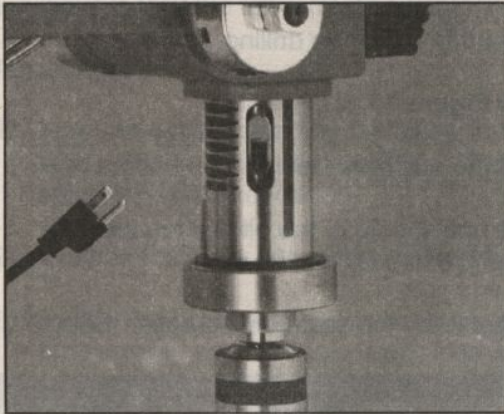

Figure 11
2. Rotate the spindle until the inner slot is aligned with the outer as shown in **Figure 11**. You will see through the spindle when the slot is properly aligned.